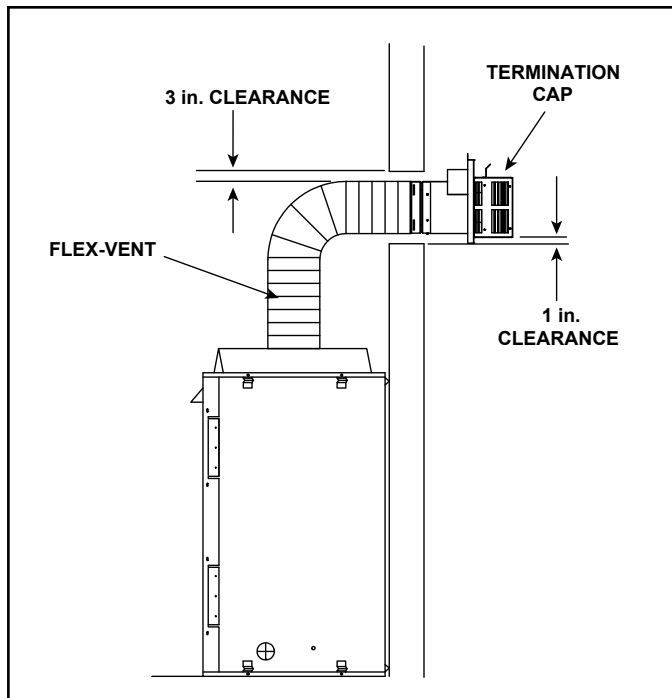

Figure 4.8 Flex Vent Pipe - Generic Fireplace Shown
A support is required at each change in venting direction, and in any location where it is necessary to maintain the necessary clearance to combustibles. A simple “up and out” installation (Figure 4.8) requires only enough support to maintain the necessary clearance to combustibles. However, the vent attachment point and the firestop location are considered to be supports.
****Note:** When using **SLP-FLEX (6-5/8 in.)** venting, there **MUST** be a 25% reduction in total H when using flex vent. See Figure 4.8.